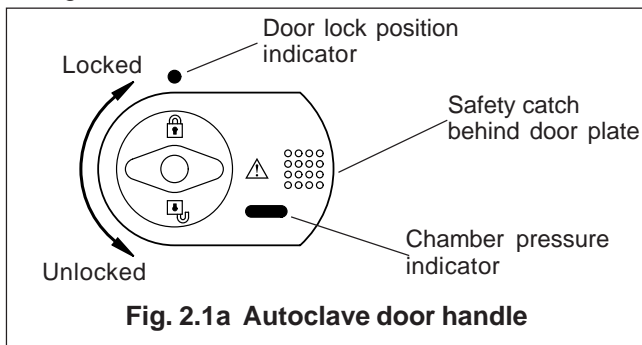

Fig. 2.1a Autoclave door handle
- Chamber Pressure Safety Indicator (Fig. 2.1a). Fitted adjacent to the door latching handle (Fig. 2.2 item 3) and operated by the pressure door lock (Fig. 2.3 item 14), it indicates that the chamber is pressurised (red) and it is unsafe to open the door, or unpressurised (green) and it is safe to open the door.